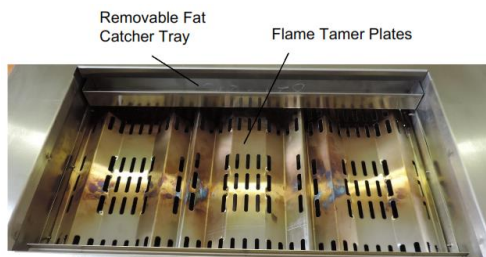

Fig. 3
- The fat catcher tray should be removed after each braai and cleaned. See Fig 3. Simply lift the cooking grills off, remove the Fat Catcher Tray by rotating the base of it slightly into the centre of the braai. Clean and replace.
- Note that all Conversion & Multifunction gas grills come as standard with flame tamer plates. See Fig 3. The Flame Tamer Plates do not need to be cleaned on a frequent basis, as the heat of the braai will sanitise them and break away small deposits. Should you wish to give them a clean, they can be treated as per the Cooking Grills. In operation these plates will glow red with the heat, which will when cold leave these plates with a coppery colour. This is normal.